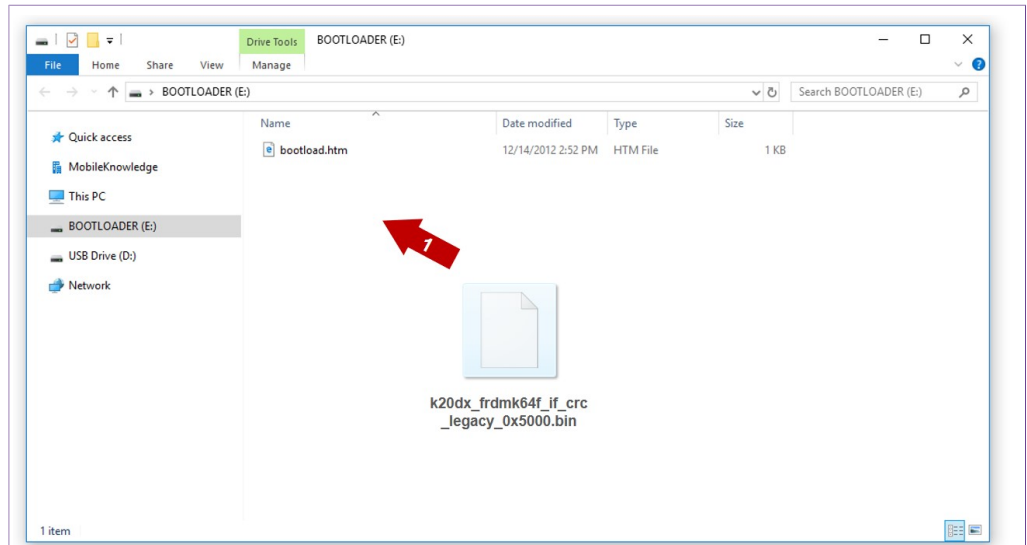

Figure 4. Enter bootloader mode
5. Drag and drop or copy and paste the binary file into the BOOTLOADER drive from your computer file explorer as shown in Figure 4. The FRDM-K64F will automatically un-mount after the drag and drop operation.